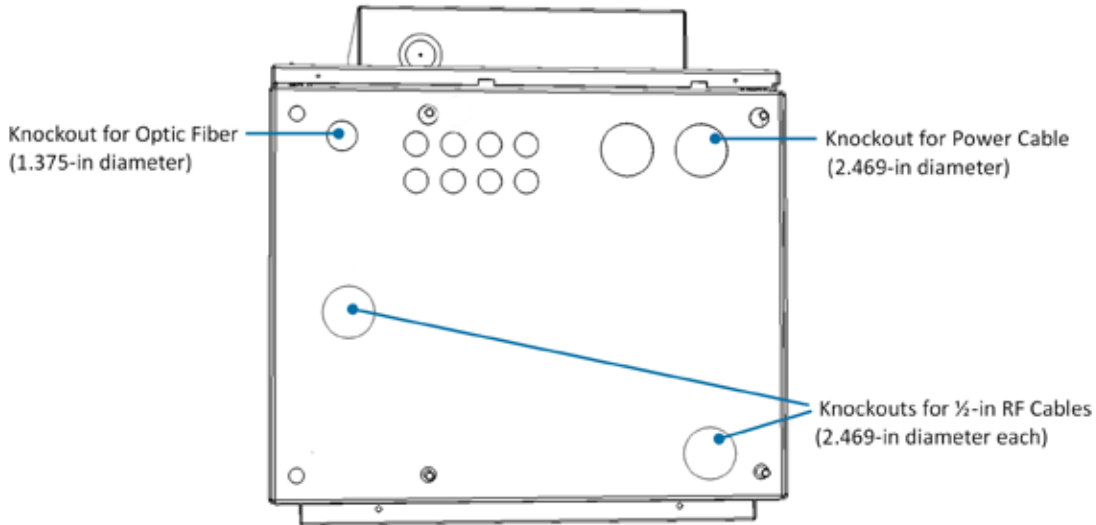
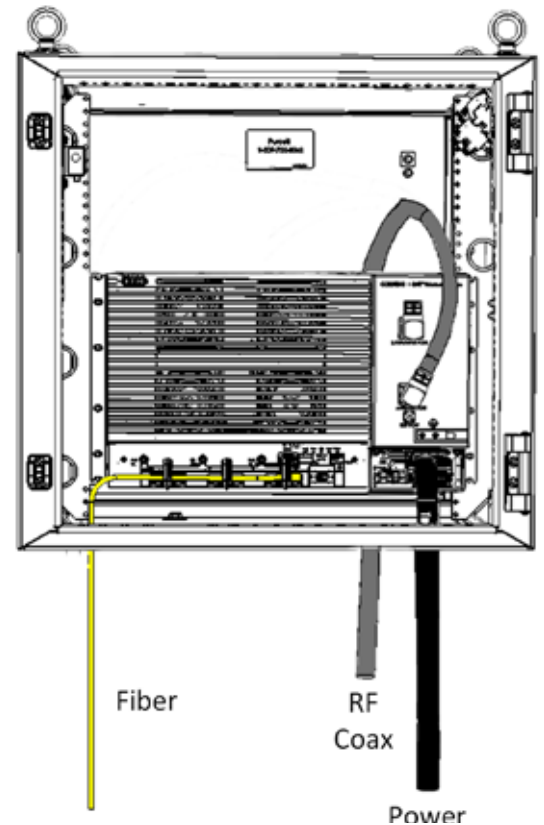

Figure 2. Required Knockout Positions
Figure 8. Example of Routed Connection Cables
- Recommended – Flexible cable conduits for routing connection cables through cabinet knockouts; refer to Figure 2 for relevant knockouts. Following are recommended Heyco part numbers for flexible conduits (or equivalent):
- Step 2:** Referring to Figure 2 for relevant knockouts, use appropriate knockout tools to punch out knockouts for routing connection cables.
For both 4.3-10 Type “ANTENNA PORT” and “2.5 GHz INPUT PORT” – route coax cable (with 90-degree right-angle connector) through its designated knockout (see Figure 2) behind and above the MRU chassis and connect to the corresponding RF port. Refer to Figure 8.
Route optical fiber from path panel and power cable through designated knockouts (see Figure 2) and connect according to instructions in MRU quick installation sheet. Refer to Figure 8.